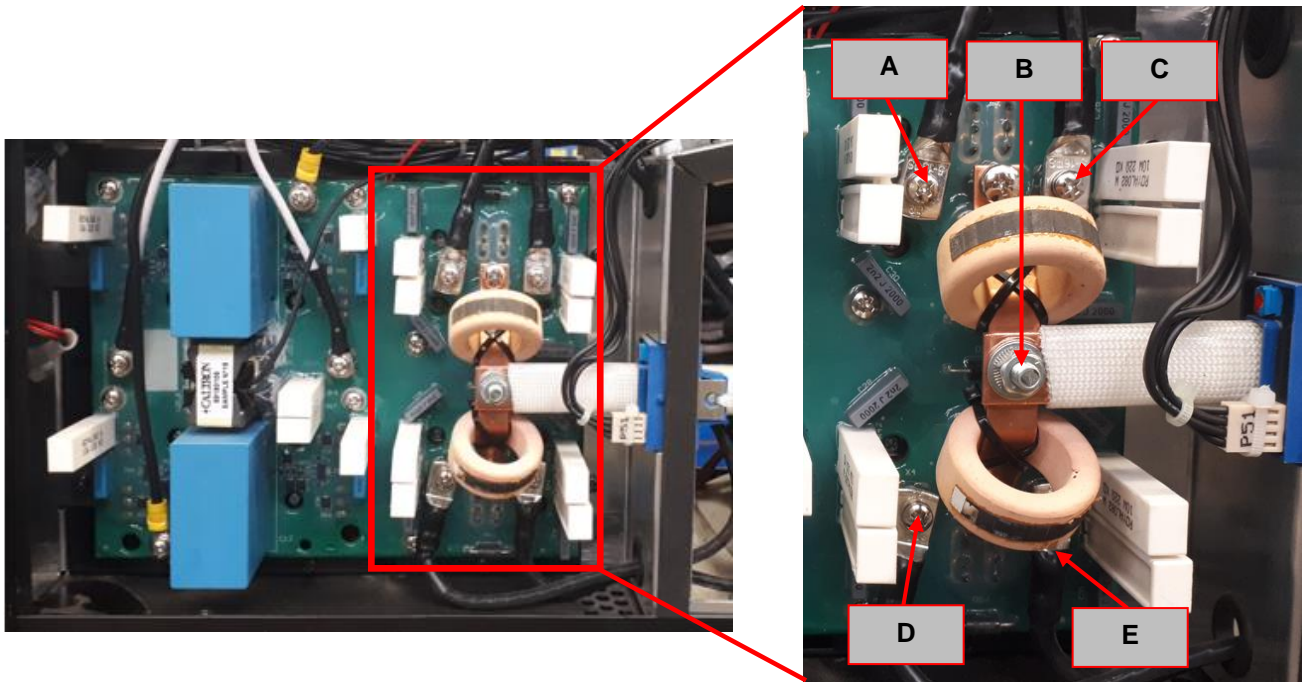

Figure 5 – Output Diodes location and Test Points
3. Locate the Output Diodes location. See **Figure 5**. The Output Diodes are part of the Inverter board.
5. Using the multimeter in diode test mode perform the tests detailed in **Test Table 4**. See **Figure 5** for Test Point locations.